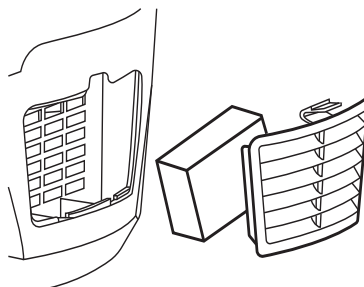

Fig9
Change the air filter if it is soiled (Fig. 9, item 7).